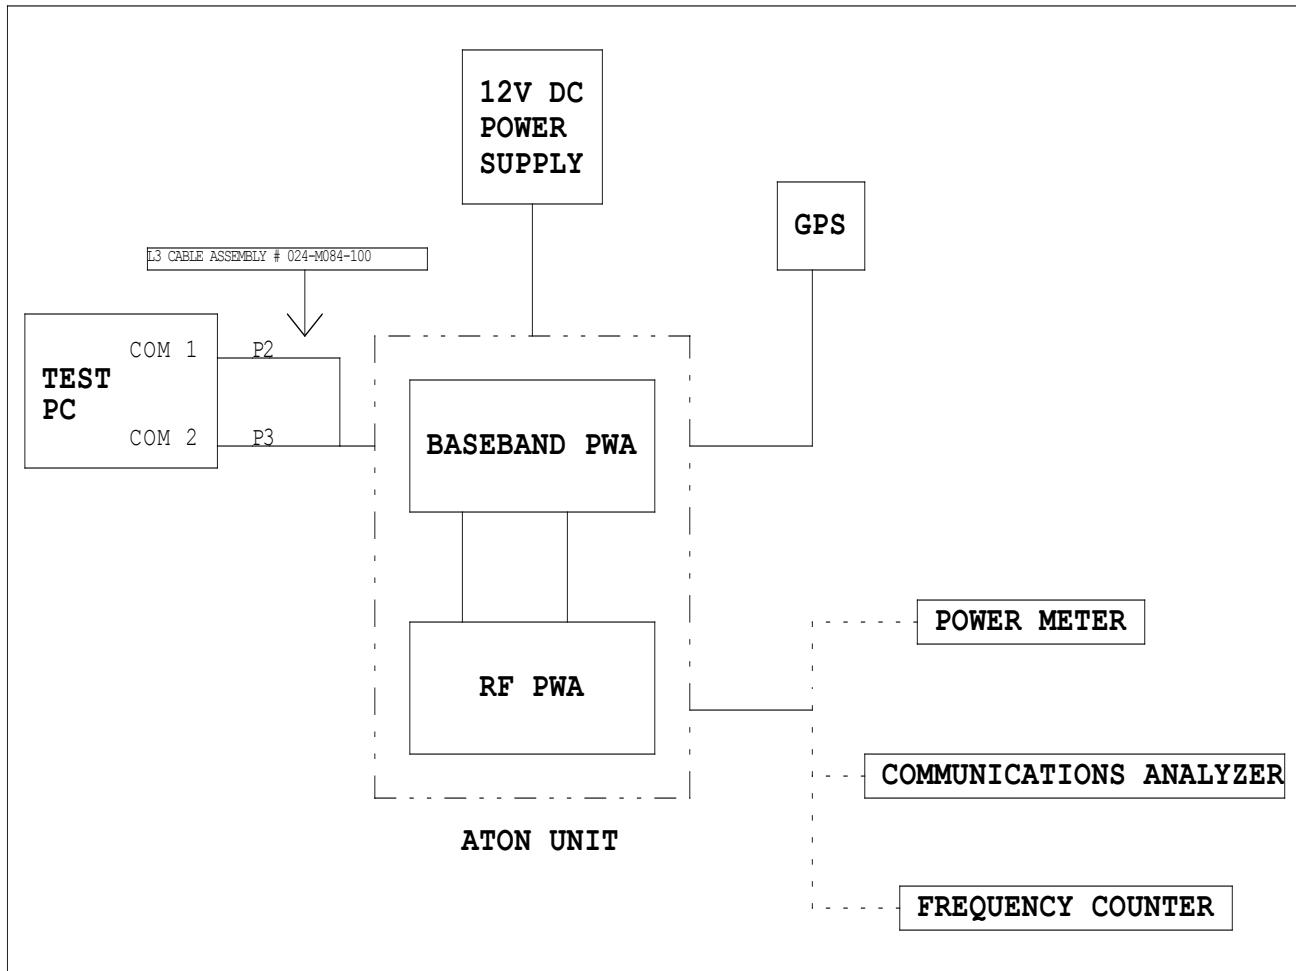
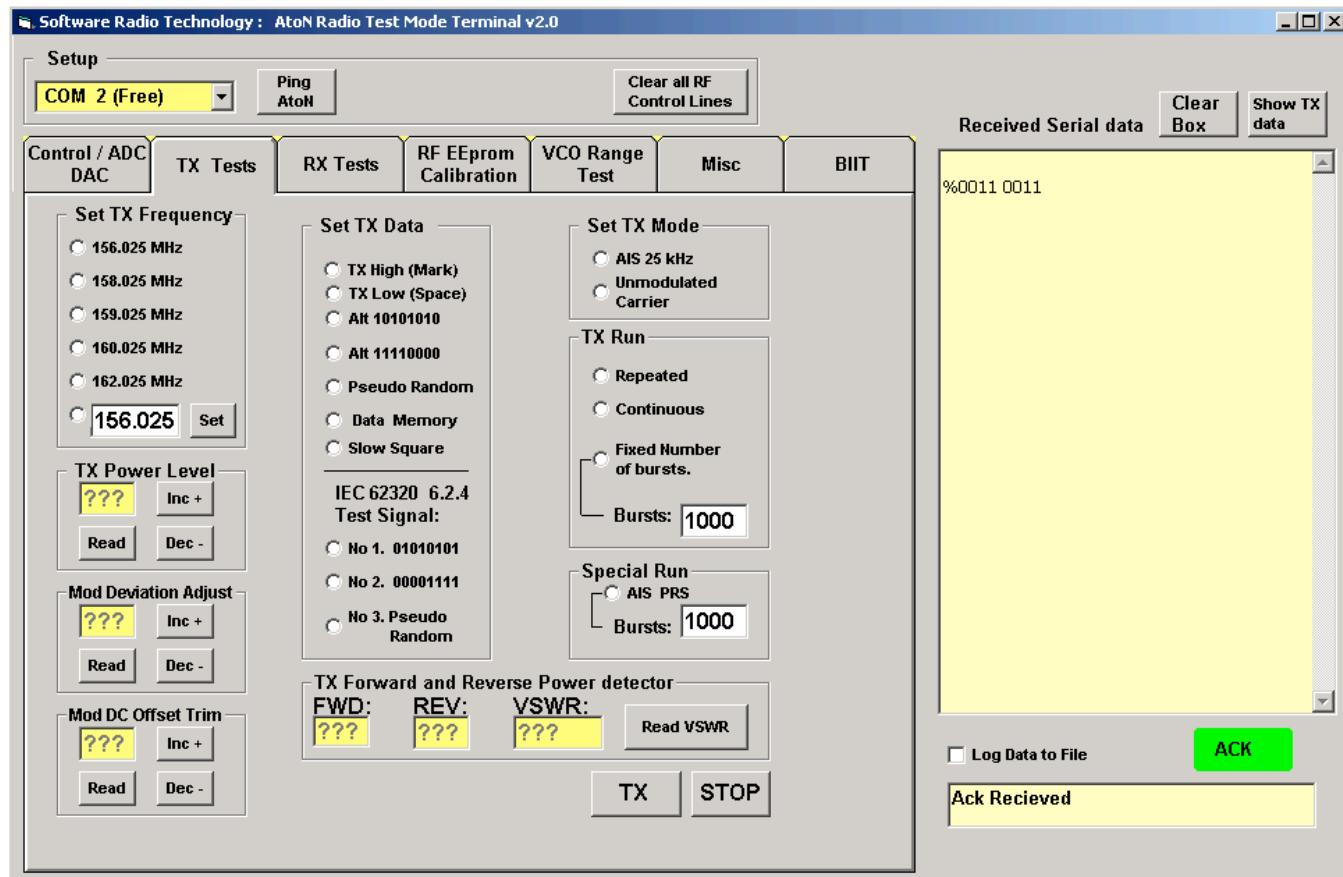

Figure 2
Figure 3
1. Configure the test set up per Figure 2 (**Note: do not connect the GPS signal to the UUT at this time**) and power on the UUT. Make sure the ARM is running and updating, and following the process in Appendix "B" release the DSP from Reset by typing "T", "2", "E" in the ARM HyperTerminal screen. Open the "Radio Test Mode Software"; connect to the appropriate Comm. Port, and click on the "Ping AtoN" button. If successful communications with the UUT has been established an acknowledgement message should appear in the received serial data window. At this point the Test software is ready for use. (see Figure 3 below) Connect the test cable from the RF Type "N" connector of the UUT to the FSEA30-B7 analyzer via an inline power meter (configured to measure FWD PEP Peak Envelope Power) utilizing a 30 dB pad on the input of the FSEA30-B7. Configure the test equipment accordingly to measure transmit frequency, deviation, and output power.